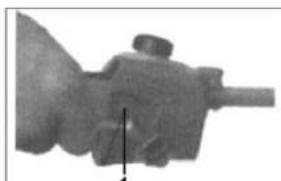

Fig. PP5
2. Loosen the sprocket cover nut with a plug wrench (Fig. PP5)